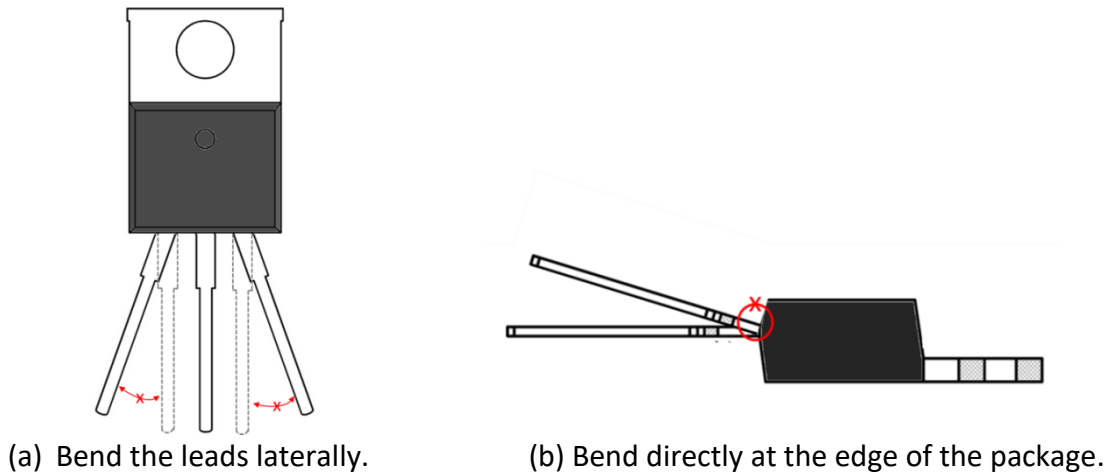

Fig 9. Incorrect lead bending methods
- Do not bend the leads laterally; see Fig 9\(a\).
- Do not bend directly at the edge of the package; see Fig 9\(b\).